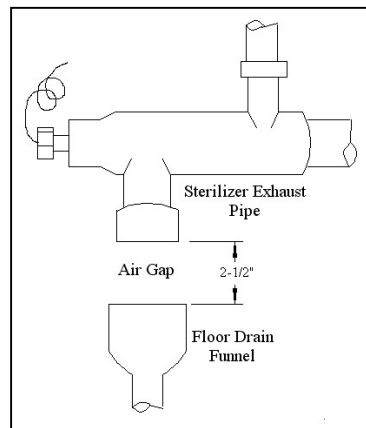

Figure 1: Sterilizer Drain Connection
- Facility waste connection needs 2-1/2" air gap to prevent backflow into sterilizer (see Figure 1)